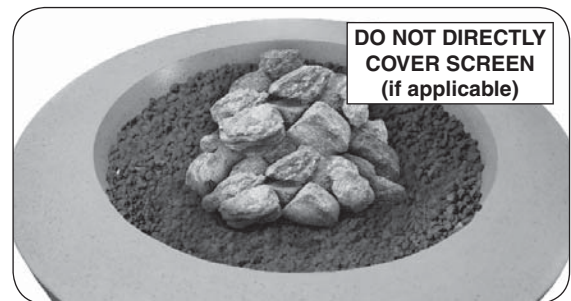

Fig. 32-3 Volcanic stone option
2. Pour the volcanic stone evenly into the burner area (see Fig. 32-3). The stones may form a mound. **Store any excess media in a safe location.**